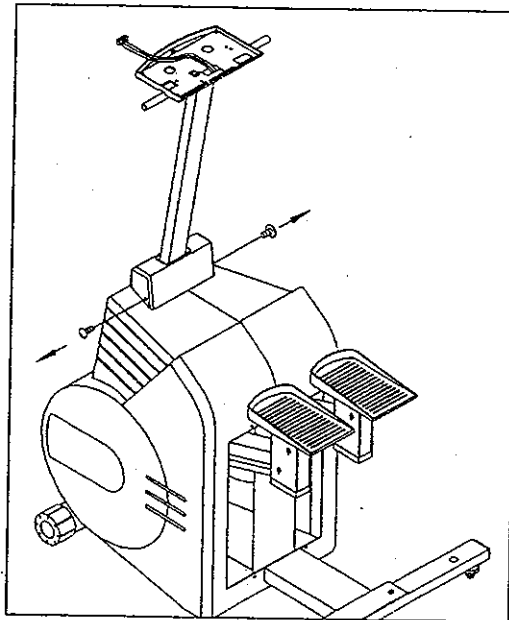

Fig. 4
4. Remove the two screws securing the post shroud (see Fig. 4).